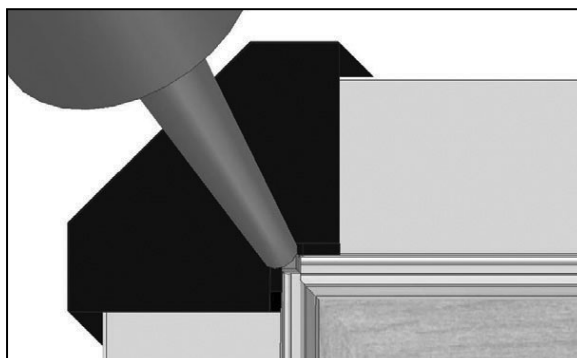

FIG. 11
- b. Apply small amount of silicone on the interior side of the small void in the corner of the frame and pad. (Fig. 11)